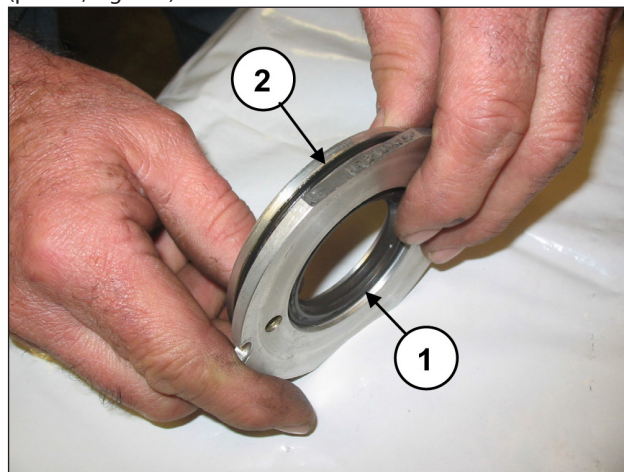

Fig. 120
Replace the oil seal (pos. ①, Fig. 120) and the outside O-ring (pos. ②, Fig. 120).